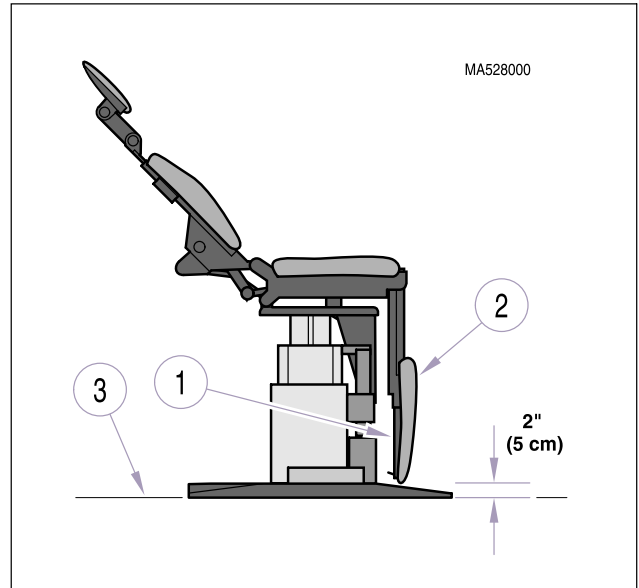

Figure 4-18. Minimum Clearance Requirement
- (31) Position limit switch bracket (7) on double sided tape (6) so that roller (8) of limit switch is even with the highest edge of tube (D).
- (32) Plug table power cord into wall outlet.
- (33) Run BASE UP function to its maximum height; then pull foot rest extension (1, Figure 4-18) out as far as it will go.
- (34) Run FOOT DOWN, and TILT DOWN functions to their lowest positions.
- (35) Depress BASE DOWN button on foot/hand control.